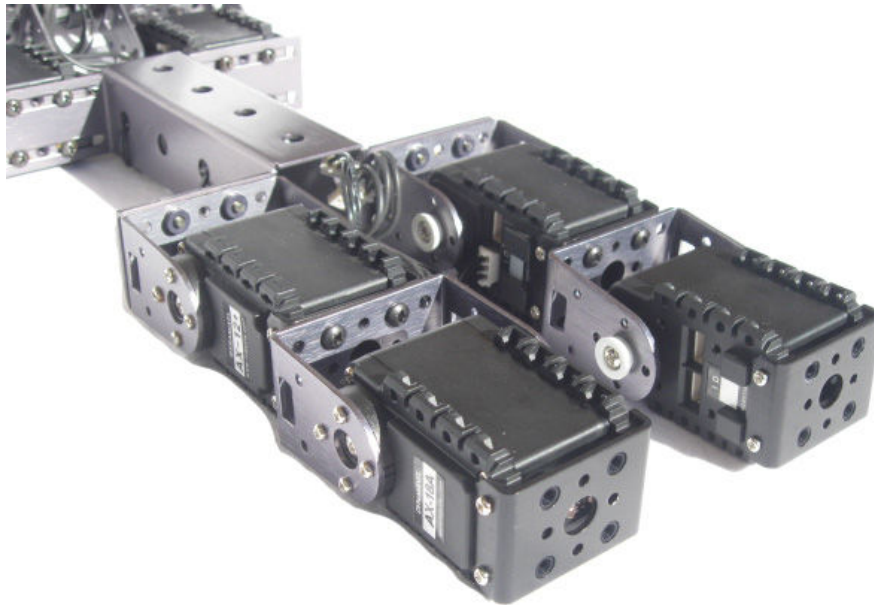

Figure 5
5. Install the (2) AX-18A servos to the AX Short Brackets using the screws and nuts from the AX-18A box as shown in figure 5.